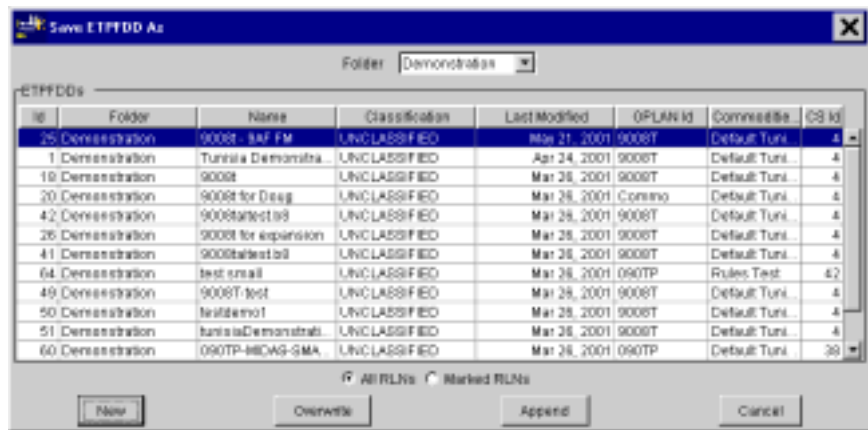

Figure 5.8 Save ETPFDD As Window
2. On the File menu, click Save As. The Save ETPFDD As window opens (Figure 5.8).